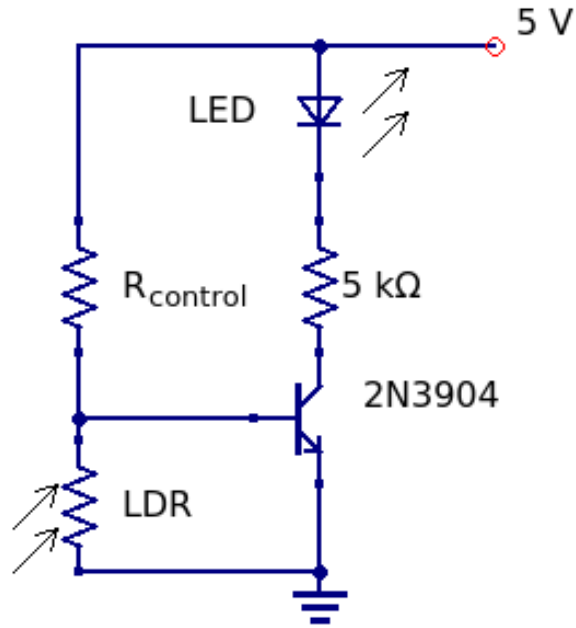

Figure 8: Light sensitive transistor Switch.
- Measure the resistance values for all the resistors in the circuit shown in Figure 8
- The switch needs to be turned off when light is incident on the LDR, therefore the  $R_{\text{control}}$  must be chosen such that  $V_{\text{BE}} < 0.6 \text{ V}$  for the circuit shown in Figure 8
- For the circuit shown in Figure 8, Calculate the value of  $R_{\text{control}}$  that will result in  $V_{\text{BE}} \sim 0.2 \text{ V}$  to prevent biasing the transistor when light is incident on the LDR
- Construct the simple light sensing circuit shown in Figure 8